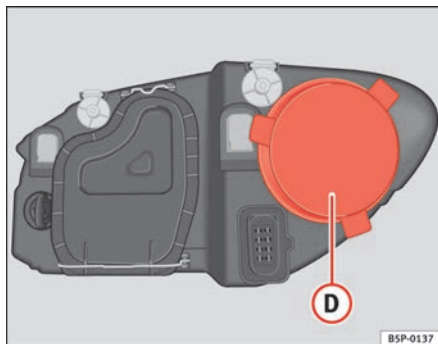

Fig. 182 Side lights
- Remove the cover ⇒ fig. 182 ① by pulling on this.